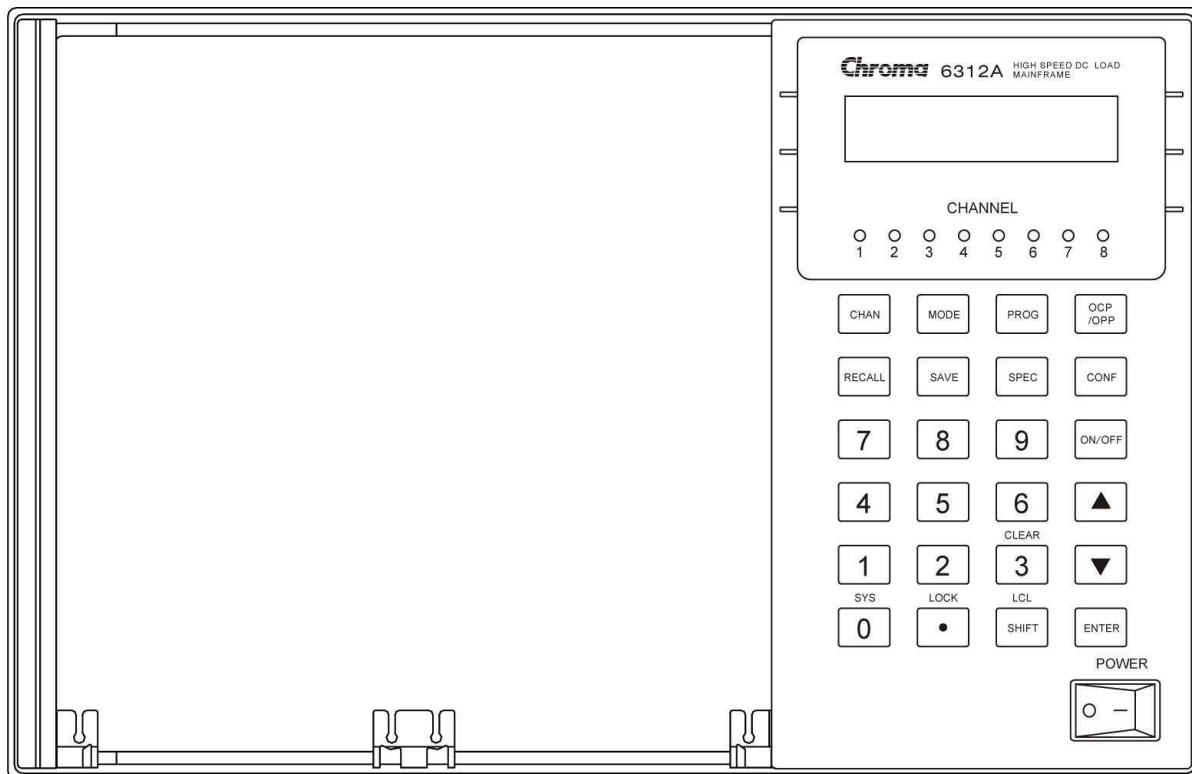

Figure 3-1 The Front Panel of Mainframe 6312A
The front panel of Mainframe includes a 16 × 2 character LCD display, 8 (4) channel indicators, and keypads. All parameters of Load are set through Mainframe. The LCD display also shows which function is being performed when you use the keypads. Three of the keys perform two functions. The alternative function is labeled in blue above the key. It is selected by pressing the blue **SHIFT** key and the function key simultaneously. Figure 3-1 shows the front panel of Mainframe 6312A.